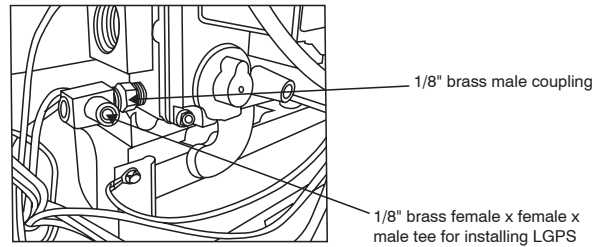

**Fig. 60 - Gas Valve Inlet Pressure Tap**
3. Apply pipe dope sparingly to one end of 1/8-in. (3 mm) brass male coupling (provided in kit) and install the doped end in 1/8-in. (3 mm) tapped opening in gas valve inlet pressure-tap. Tighten fitting with a small open-end wrench. (See Fig. 60.)
4. Attach the female end of the female x female x male brass tee (provided in kit). Tighten fitting with a small wrench so the male portion of the tee points out from the furnace (see Fig. 60).